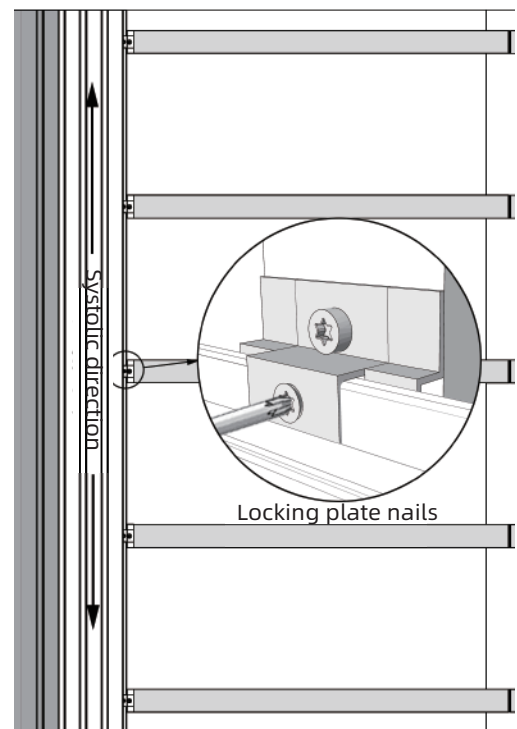

Fig23-3
2. According to the actual situation on site to determine the direction of thermal expansion and contraction of the wall cladding, such as the top and bottom of the wall cladding can be retracted, the locking board nails fixed in the middle of the board position. As shown in Figure 23-3 and 23-4: